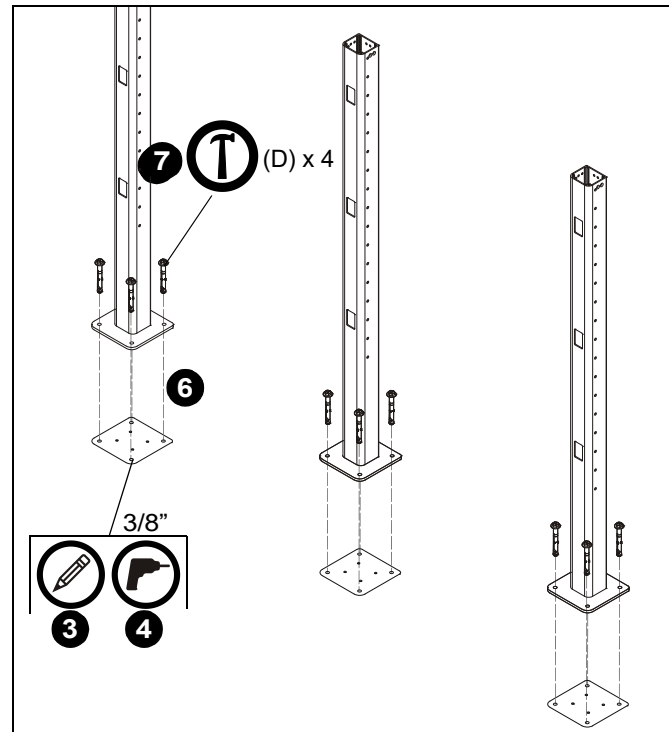
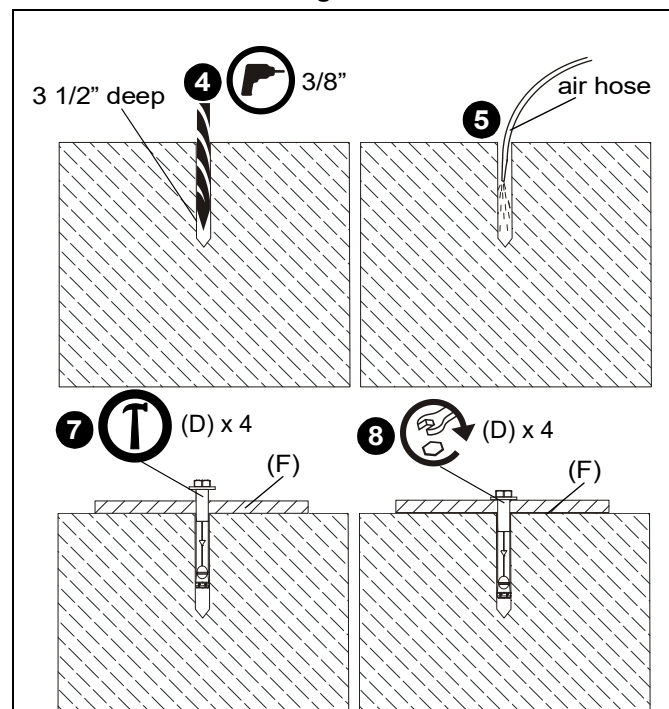

Figure 2
Figure 3
3. Using bolt down plate (F) as template, mark four holes at outside hole locations for each column. (See Figure 2)
4. Using a 3/8" drill bit, drill a hole 3 1/2" in depth at each marked location. (See Figure 2) and (See Figure 3)
5. Blow each hole clean of any concrete debris with a large air hose or compressed air in a can. (See Figure 3)
6. Place each bolt down plate (F) on top of drilled holes making sure holes on plate are aligned with drilled holes. (See Figure 3)
7. Use a hammer to drive anchors (D) through plate holes into the drilled holes until the bolt head is firmly seated against the plate. (See Figure 2) and (See Figure 3)
8. Tighten each anchor by turning the head three to four turns past finger tight. (See Figure 3)